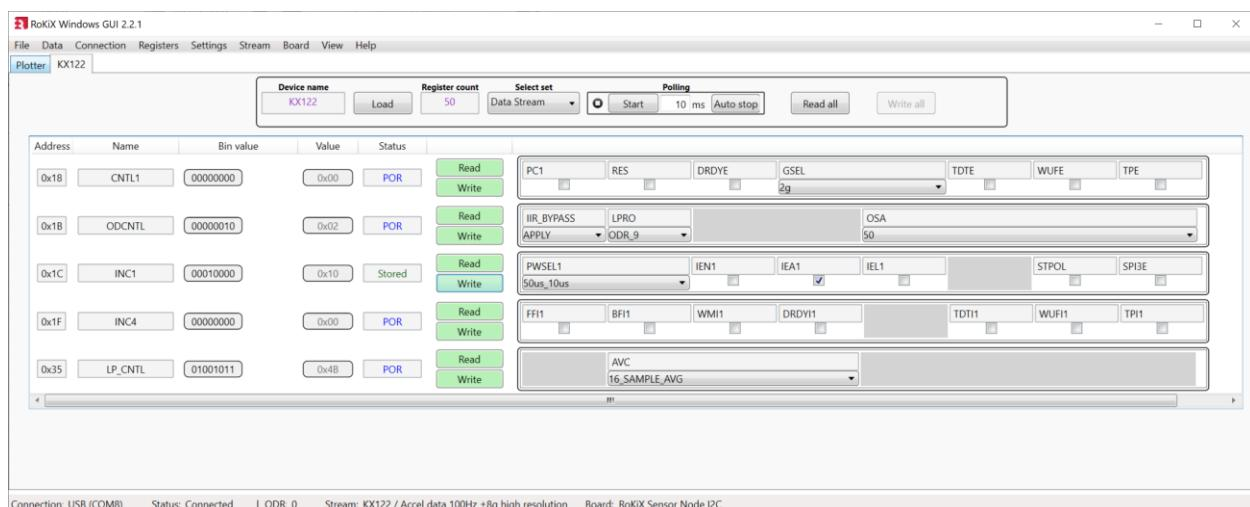

Figure 38: Stream modify mode in the register editor.
- Some devices require that the power control bit (PC) is set to 0 before changing the register values. Otherwise register value changes are not applied. After registers are edited, the PC bit must be set back to 1 to enable the device again.
- Many data streams have their own register sets called “Data stream”. They contain only registers which are directly linked to the used data stream. Thus, this makes it easier to modify data registers related to data reading. (Figure 38)